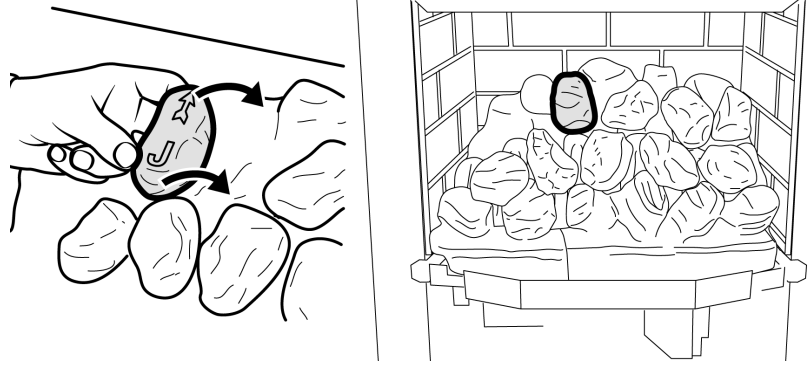

Figure 15. Second row "Coal J"
19. Hold coal 'J' upright with the arrow pointing to the top. Locate coal 'J' as shown in figure 15